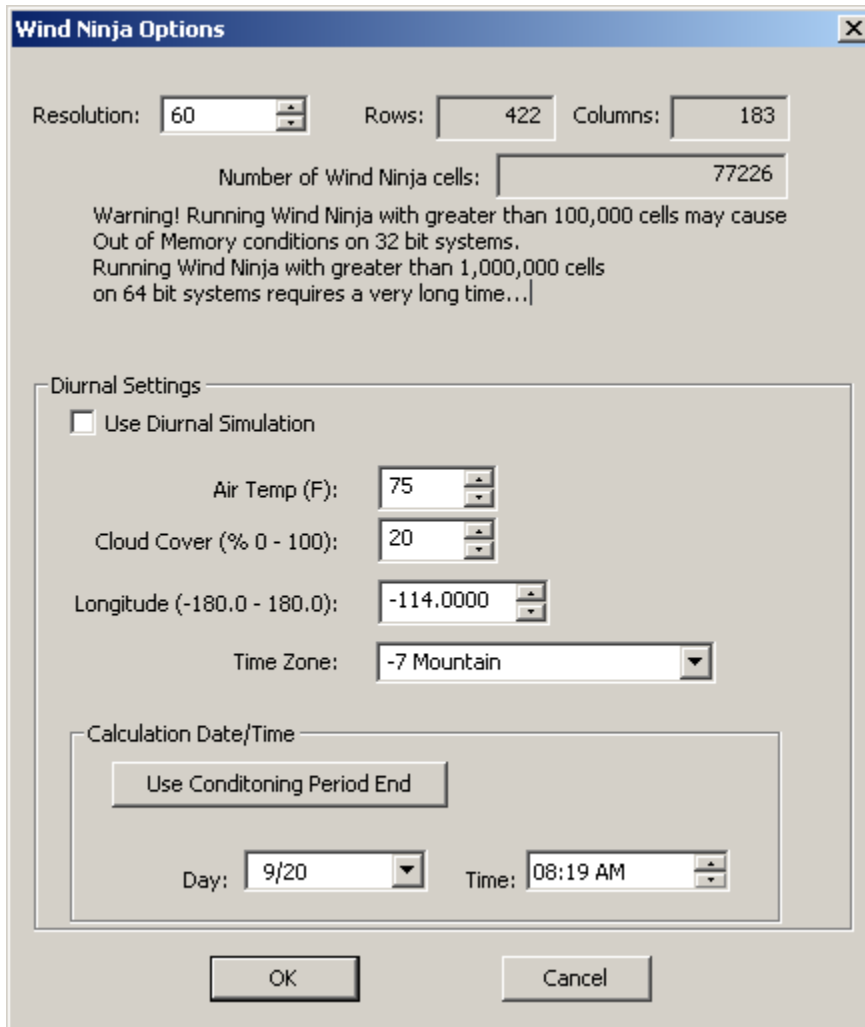

Figure 4-58—Wind Ninja Options window.
f) Select the *Generate Wind Vectors* option and then click **Wind Ninja Options** (fig. 4-58).